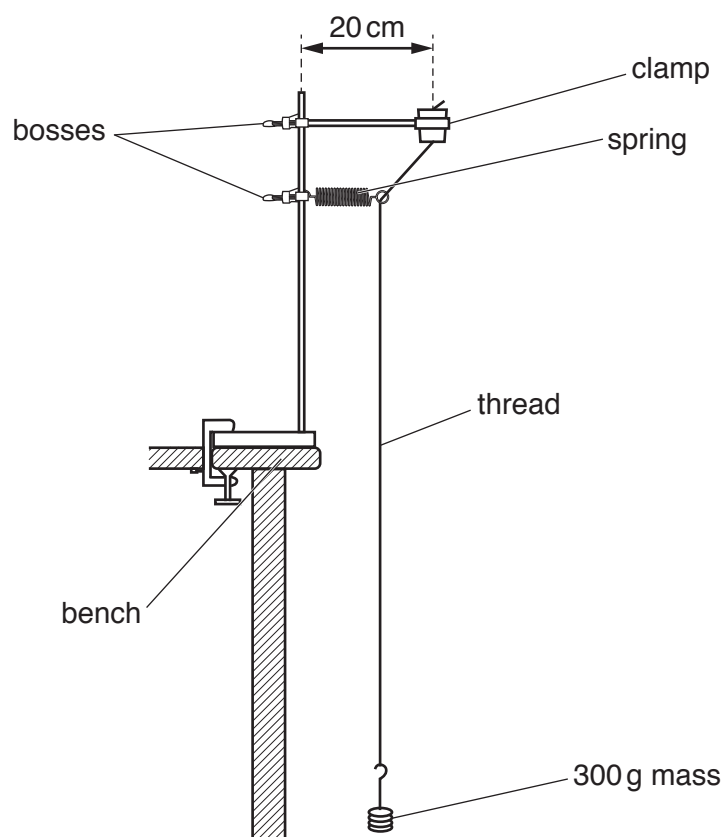

Fig. 1.1
1. The pendulum should be set up for the candidates as shown in Fig. 1.1. The end of the thread should be held in a split cork and held vertically in the clamp. The centre of the split cork should be approximately 20 cm from the centre of the stand. The thread and mass should be attached together to make a pendulum of length 100 cm from the bottom of the split cork to the bottom of the mass. The thread should be passed through one end loop of the spring.